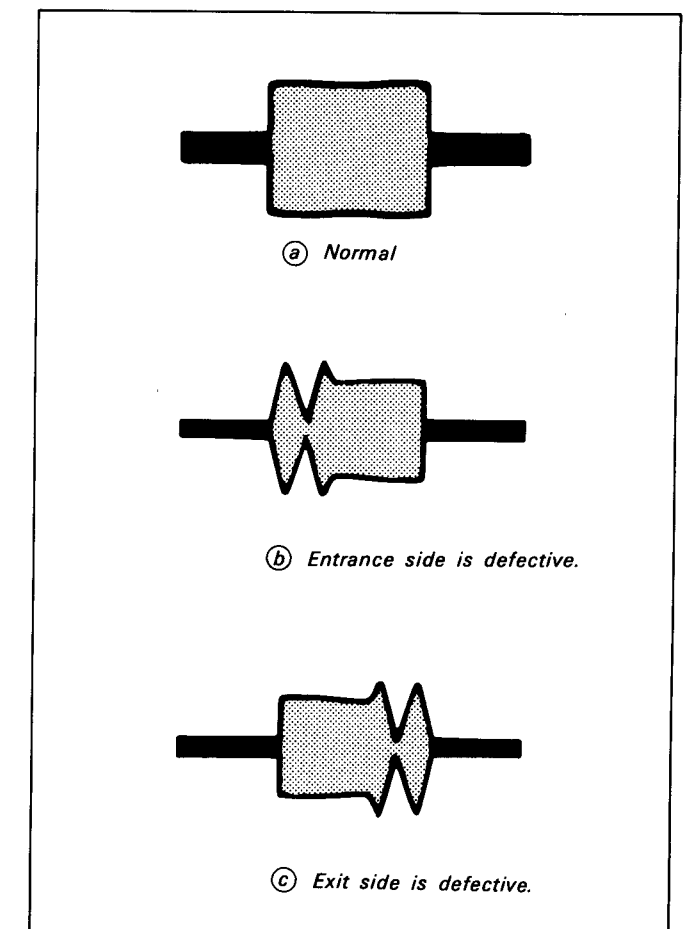

Fig. 8-69.
- 7) Turn off the SEL switch of the tracking shift & monitor jig and confirm that the RF waveform is as shown in a of Fig. 8-69.